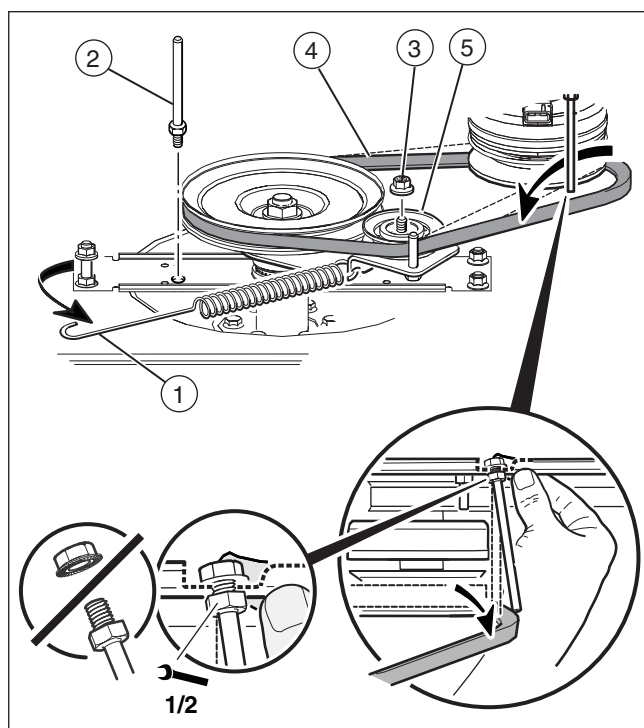

Figure 34
2. Disconnect the extension spring (1) from the mower deck post.
3. Loosen the belt guide (2) from the drive pulley (see **Figure 34**).
4. Remove the flange nut (3) from the top of the idler pulley (4) and remove the idler pulley.
5. Remove the mower drive belt (5).